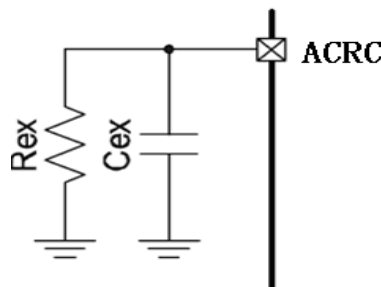

Fig 5. ACF Terminal Control Circuit
*2: the connection circuit is shown in Fig. 5.
Connecting a resistor (R_{ex}) and a capacitor (C_{ex}) to ACRC terminal can set Attack Time^{*1} and Release Time^{*2} of the Anti-clipping control, which is shown as Fig.5.